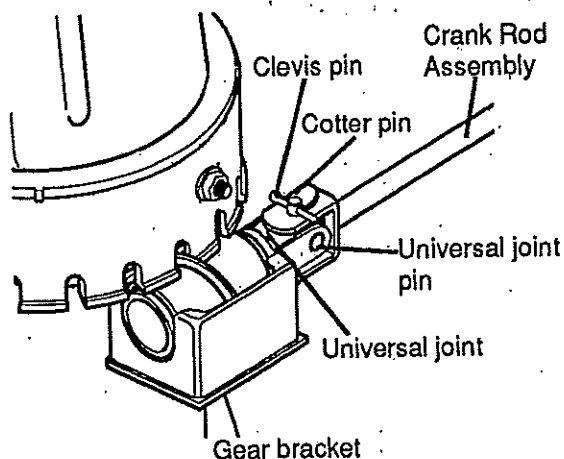

FIG. 5-ASSY
- Carefully remove cotter pin, clevis pin and universal joint pin from yoke end of crank rod assembly. See FIG. 5-ASSY.